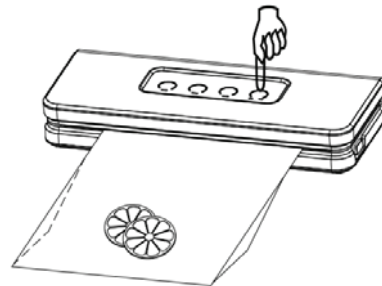

Figure 3
6. Press the Food Button to select either Dry or Wet setting to suit your needs (as shown in Figure 3);